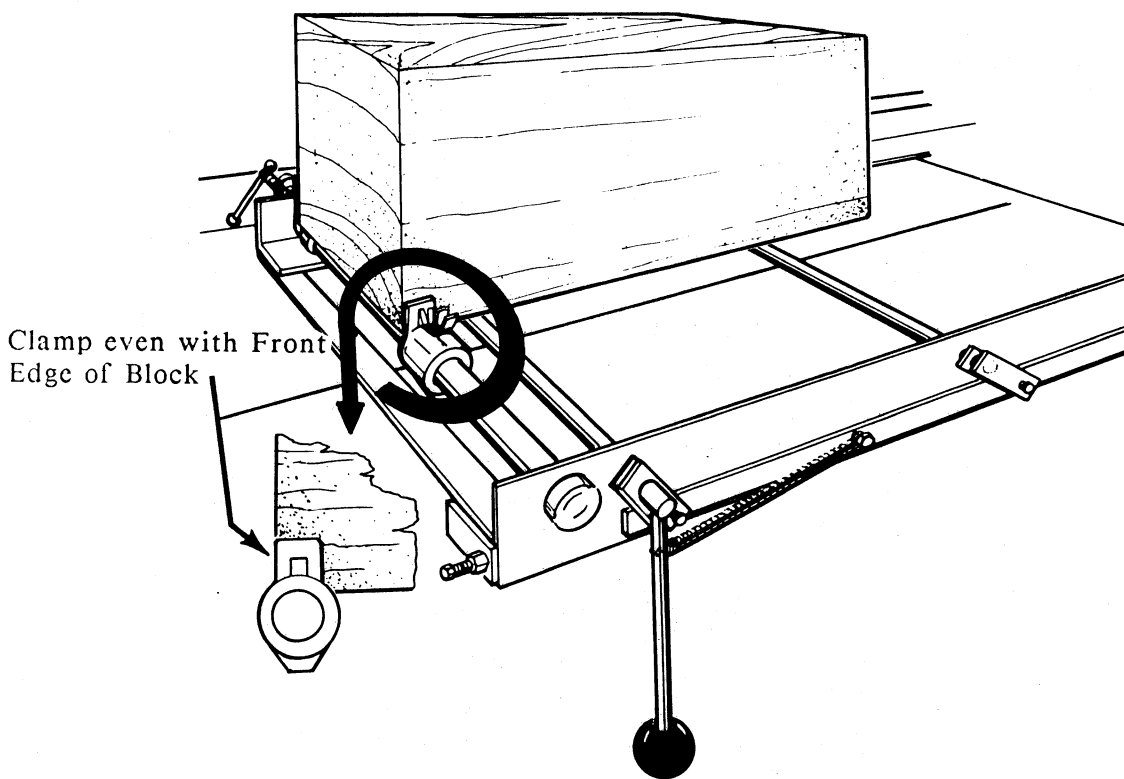

FIGURE 2
2. Mount the blocks into the Shingle/Lap siding option by clamping them with the bar clamps. The lead edge of the block should be even with the front edge of the clamp that holds it (See Figure 2).